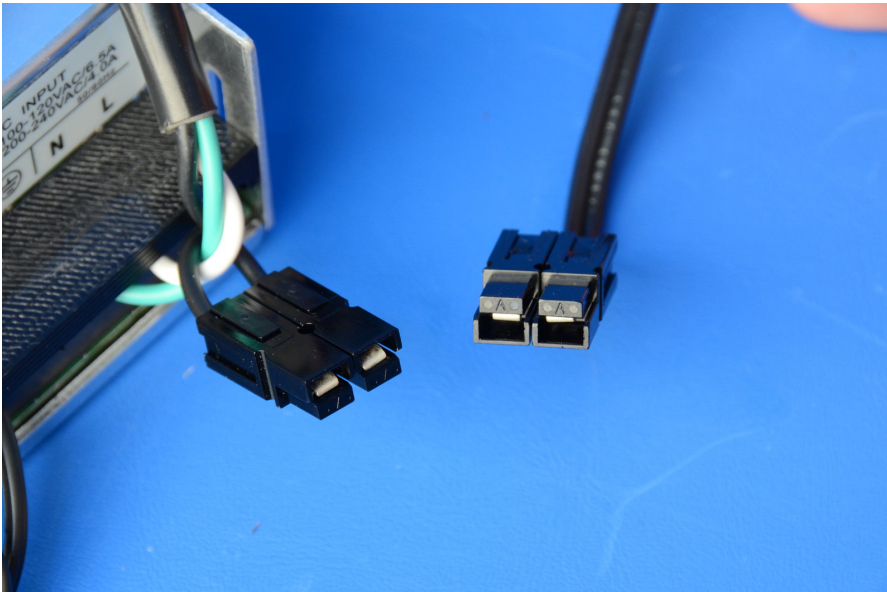

Figure 2.4: Power supply plugs
6. Plug the loose black plug coming from the printer into the black plug from the power supply (Fig. 2.4, page 18).